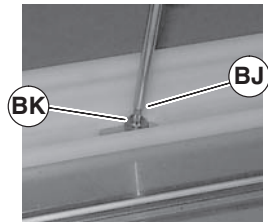

Figure 46
2. With a T-20 Torx head wrench, remove screw (Figure 46, item BJ) and bushings (BK).